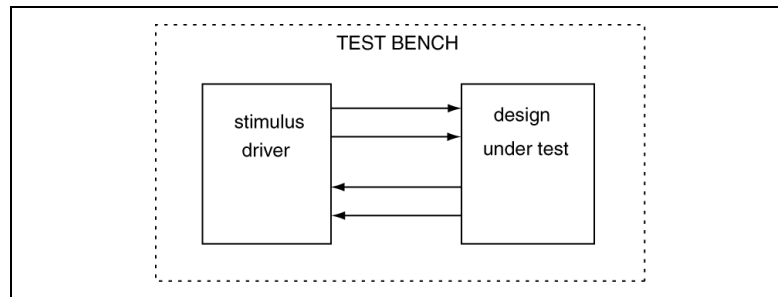

Figure 13: The general model of an HDL testbench.
Testbenches: Test benches range from quite simple to massively complex depending on their intended purpose; the test bench can sometimes become more complicated than the actual circuit you are testing. Figure 13: The general model of an HDL testbench. shows a general model of a testbench. The test bench comprises of two main components: the *stimulus driver* and the *design under test*. The design under test, or *DUT*, is the HDL model you intend on testing. The stimulus driver is a HDL model that
The stimulus driver is nothing special in terms of a HDL model. The main difference here is that instead of dealing with signals that interface with the outside world (such as switches and LEDs), we're now dealing with signals that are driving the unit we intend to test. Note that in Figure 13 there are no signals touching the dotted line, therefore the testbench itself has no inputs or outputs. The testbench generally has two sets of modules: one is the DUT, which you instantiate into your testbench; everything else in the testbench is part of the stimulus driver. This is clearer when you see it in an example.
Use the Verilog model of a 4-bit comparator in Figure 13 to generate a basic testbench model.
- The argument list for the testbench module declaration is empty. Note that in Figure 13 that there are no inputs or outputs to or from the testbench box.